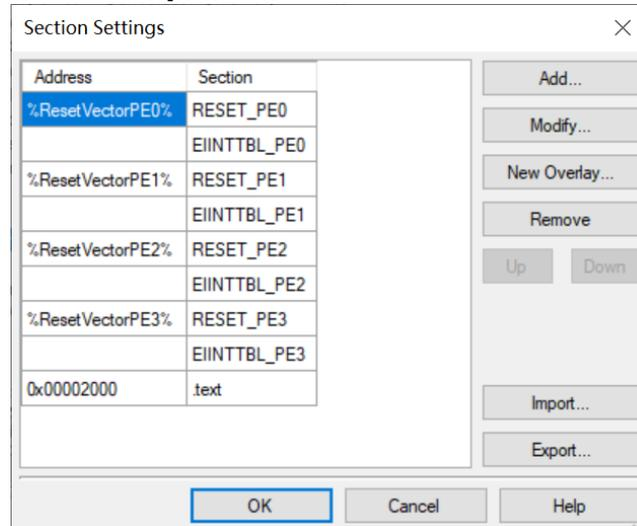
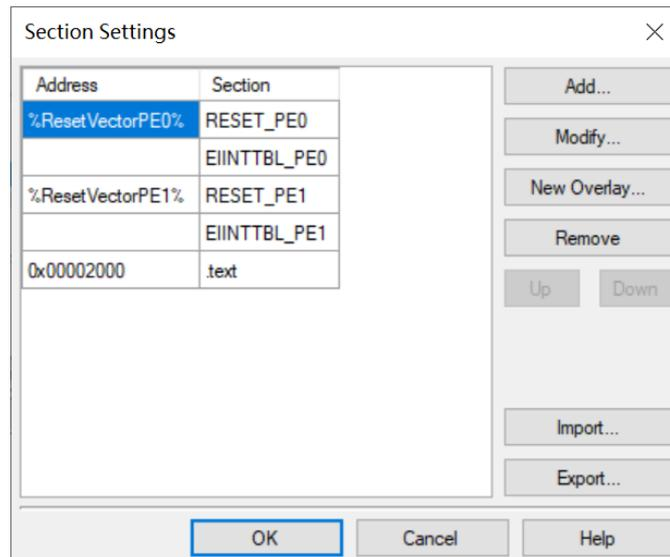
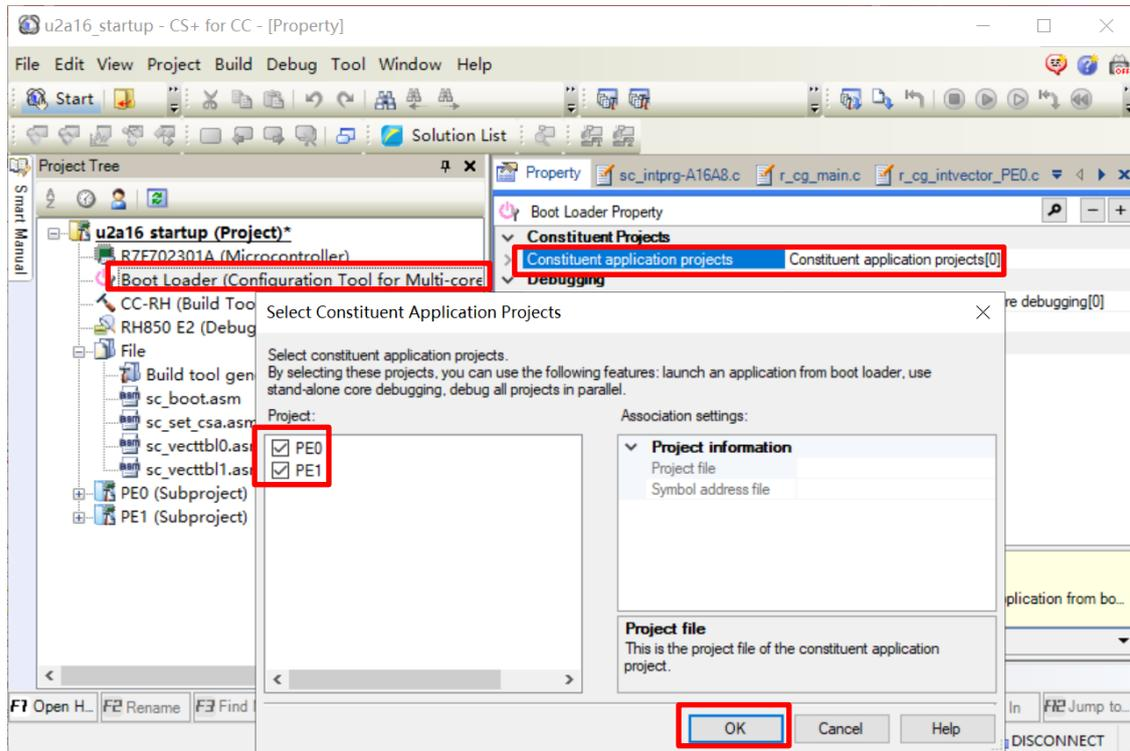

Figure 4-15. Link Section Settings before changing microcontroller
Figure 4-16. Link Section Settings after changing microcontroller
Figure 4-17. Specify the constituent of main project
4.3 Procedure for Changing the Device Update figure: Figure 4-9. Change Microcontroller Figure 4-11. Select device to be changed Figure 4-12. Remove unsupported subprojects Figure 4-14. Confirm microcontrollers are changed Figure 4-15. Link Section Settings before changing microcontroller Figure 4-16. Link Section Settings after changing microcontroller Figure 4-17. Specify the constituent of main project  Add content about removing not supported interrupt vector table and relative figure Figure 4-13. Remove unsupported interrupt vector table in (1) Changing the microcontroller, c) Change subprojects microcontroller